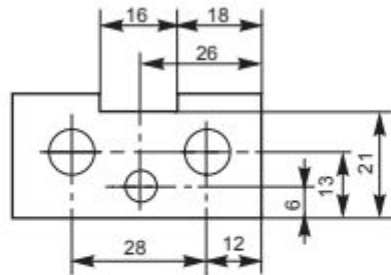

Fig. 2.31
4. Projection lines and dimension lines should not cross each other, unless it is unavoidable (Fig. 2.31).
6. A centre line or the outline of a part should not be used as a dimension line, but may be used in place of projection line (Fig. 2.31).